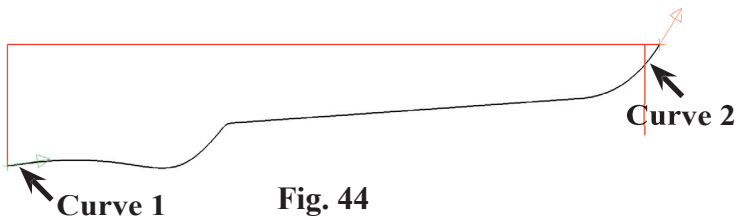
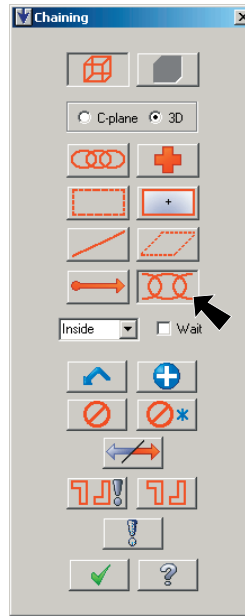

Fig. 44
Fig. 43
Step 3. Click **Partial** button  (P) in the Chaining dialog box, **Fig. 43**.
Step 4. Click left end of top arc (above the cartridge hole), **Curve 1**, **Fig. 44**. Click right end of same arc. Click OK  in the Chaining dialog box, **Fig. 43**.